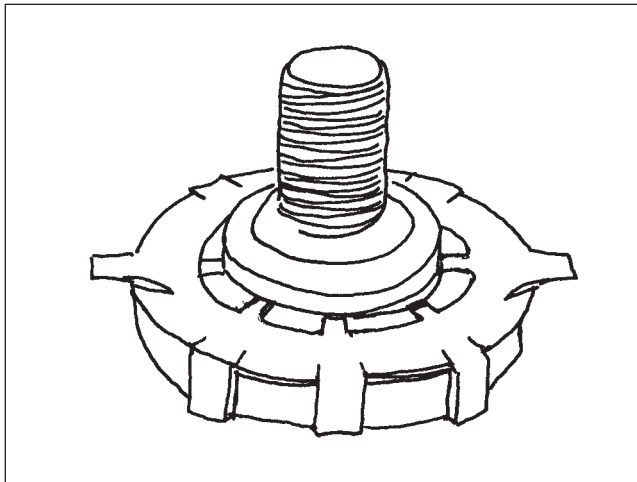

Figure 54
4. Apply the specified Never-Seize compound in the threads of the sector shaft and retainer and on both sides of the friction washer (Figure 54).